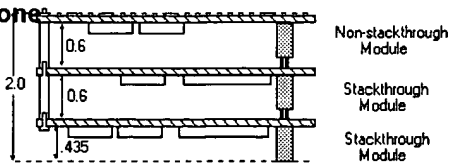

Figure 2. Standalone Module Stacks
**Standalone module stacks.** As shown in Figure 2,
PC/104 modules are self-stacking. In this approach, the modules are used like ultra-compact bus boards, but without needing backplanes or card cages. Stacked modules are spaced 0.6 inches apart. (The three-module stack shown in Figure 2 measures just 3.6 by 3.8 by 2 inches.) Companies using PC/104 module stacks within their products frequently create one or more of their own application-specific PC/104 modules.